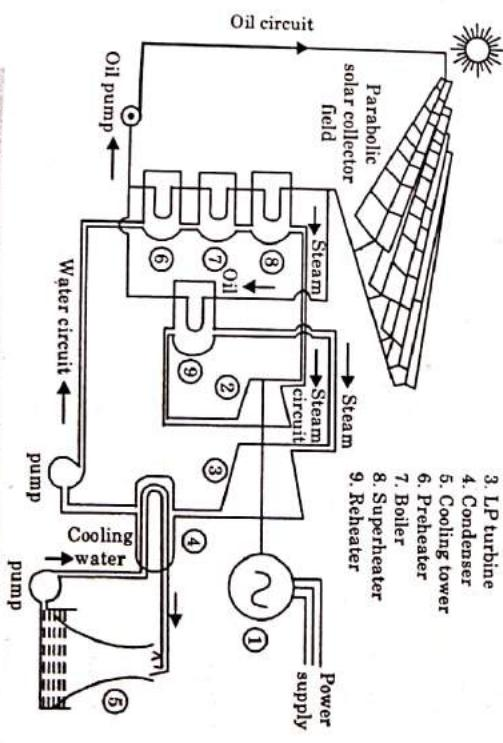

Fig. 2.23.2. Medium temperature solar power plant.
1. Solar thermal power plants operating on medium temperatures up to 400 °C use the line focusing parabolic collector for heating synthetic oil flowing in the absorber tube as shown in Fig. 2.23.2. A schematic diagram of a typical plant is shown in Fig. 2.23.2.